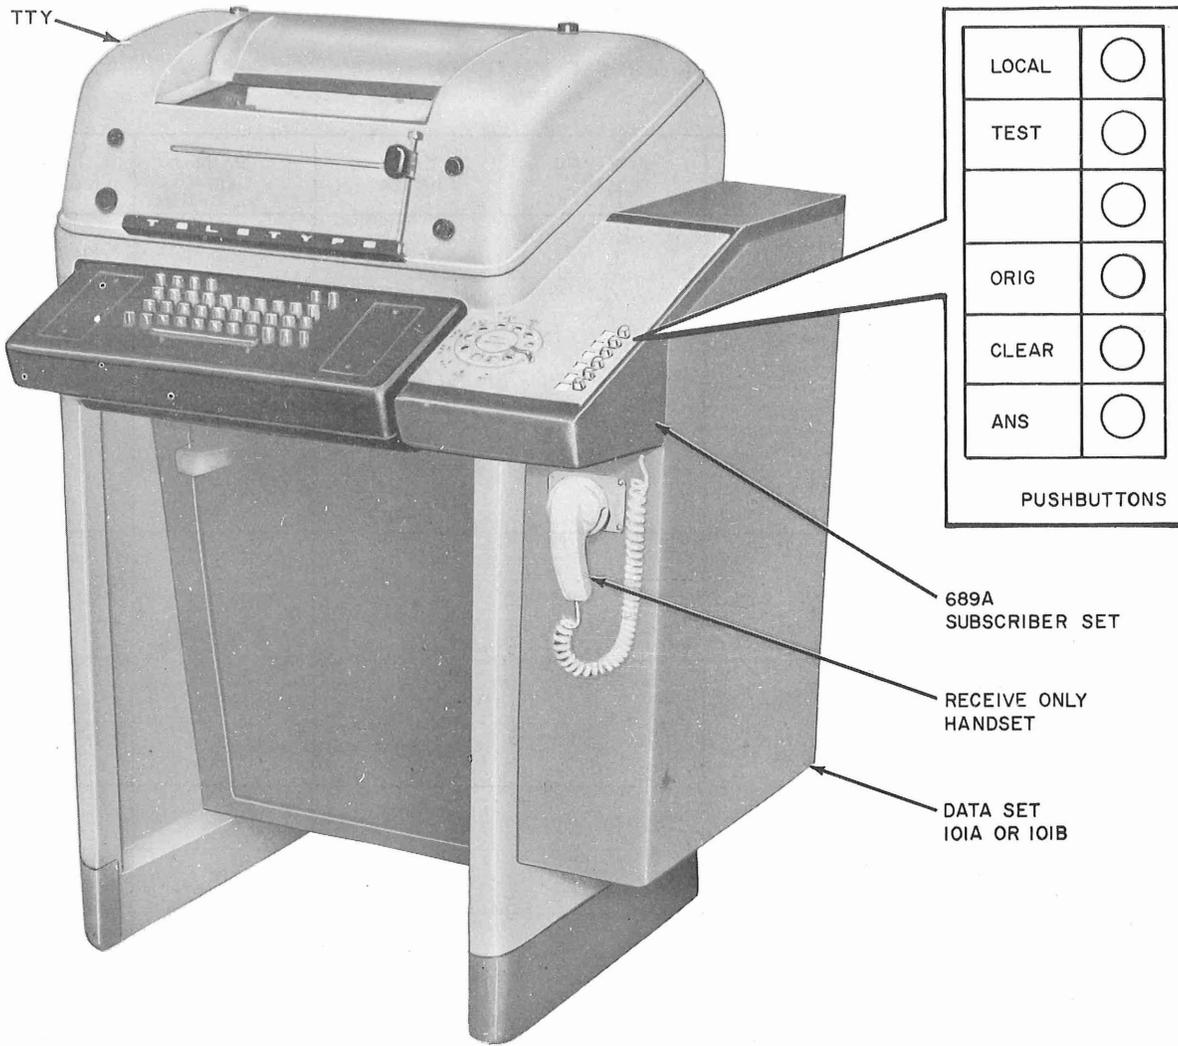

Fig. 2—Data Set 101A or 101B and Subscriber Set 689A Mounted on 28 KSR TTY
- The 689-type is used with the 28-type machine and is designed to fit the contour of the cabinet. It is mounted on the right side of the TTY table at keyboard level (Fig. 2).
2.09 The electronic circuitry of the data set is packaged on seven circuit packs. The circuit packs are plug-in type, easily removed for maintenance purposes. The circuit packs are contained in a metal cabinet that is mounted to the side of the associated TTY table (Fig. 2 and 3). The functions of each of the seven circuit packs are as follows: